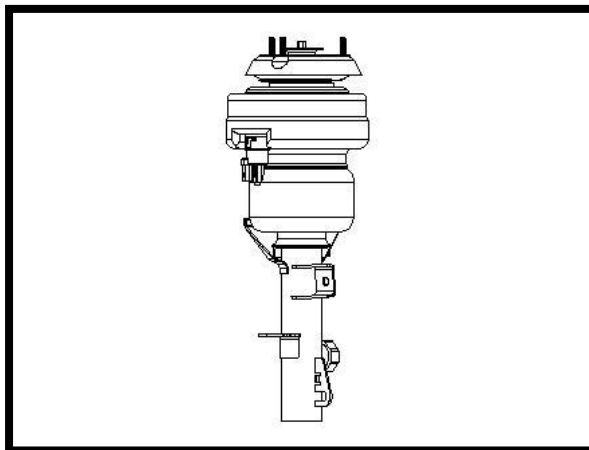

FIGURE 30-1
7. ASSEMBLED STRUT SHOULD APPEAR AS FIGURE 30-1.